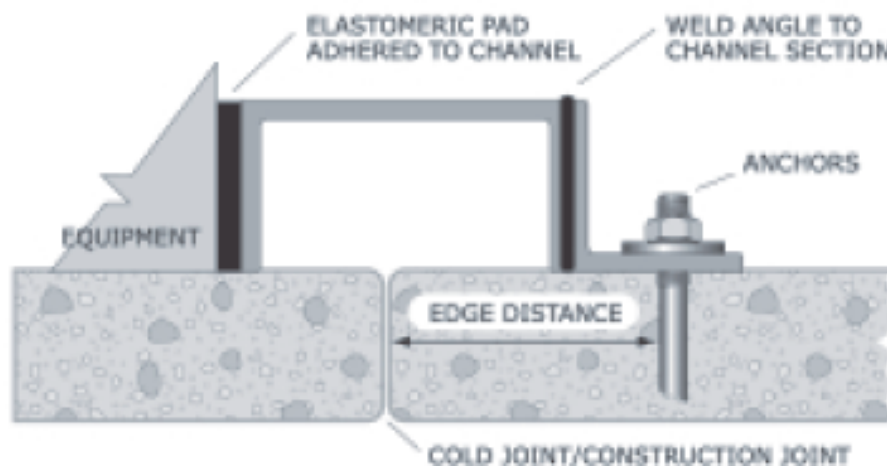
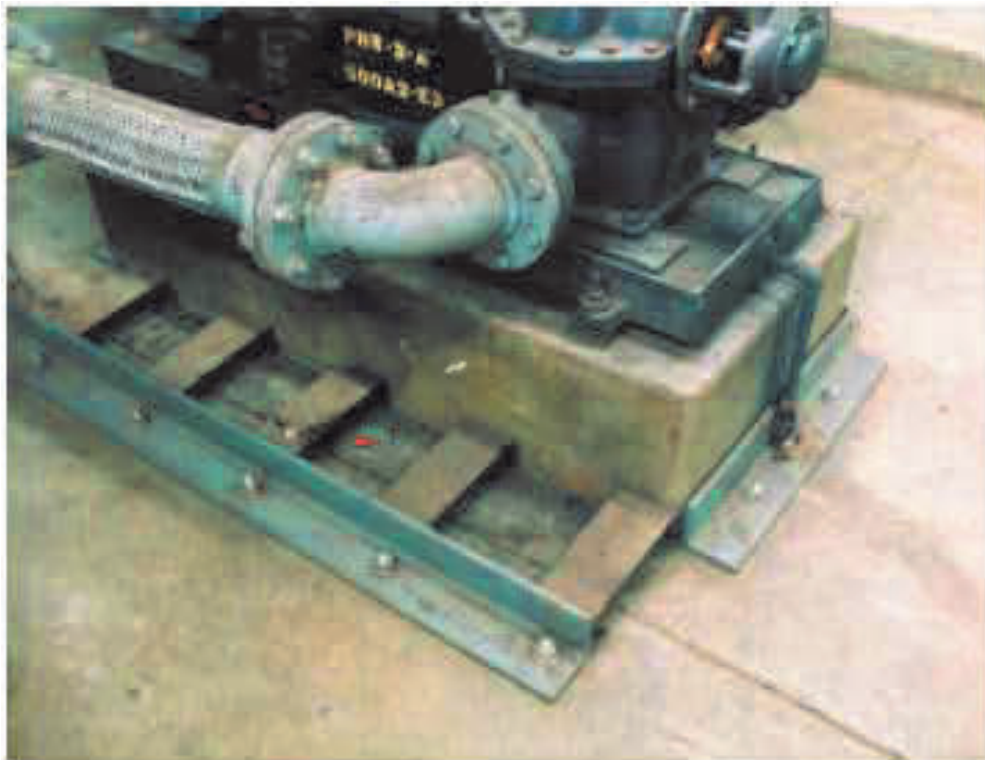

Figure 77: Alternate installation detail of bumpers installed near a concrete joint.
Figure 78: Equipment restrained with bumpers next to cold joint.
**If anchors are near a joint in the concrete, see detail in Figure 77.**
See Anchors (page 94). If the anchors are near a concrete joint, refer to the detail in Figure 77 (page 40).
See Anchors (page 94). Figure 77 shows equipment restrained with bumpers next to a cold joint. Notice in Figure 78 below that the application is near a concrete joint.